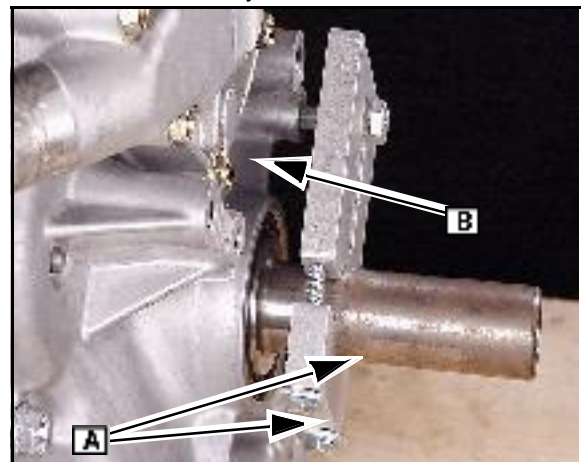

Fig. 2
5. Insert drive end of a 3/8" breaker bar into slot of clamp. Hold the breaker bar to prevent the crankshaft from turning or install a bolt through the slot of the tool (**B**) Fig. 2) into an open hole in the bolt circle of the cylinder cover.